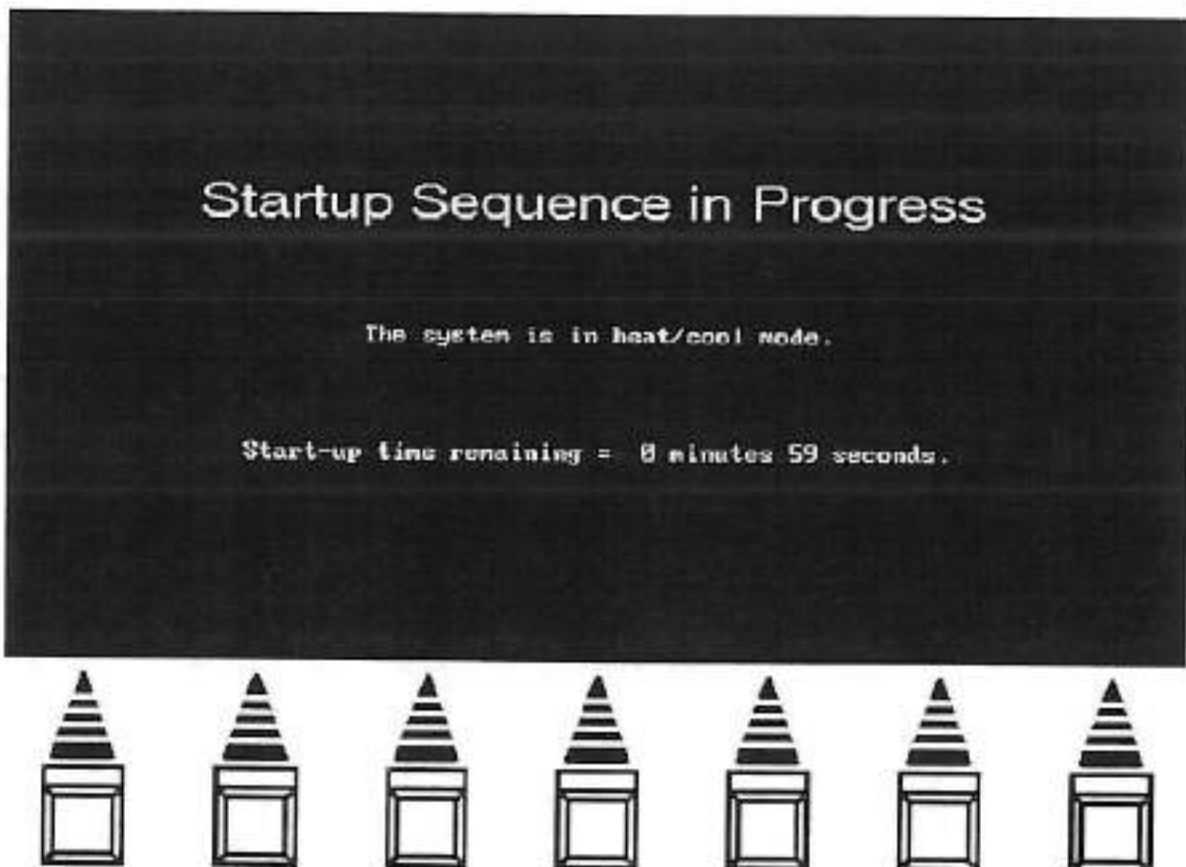

Figure 3-7. Startup Sequence Screen
4. Observe that the *System Startup Screen* (refer to Figure 3-7) appears on the CRT display of the operator control module (OCM).
- The operator control module (OCM) will show a program status message and then several seconds later the *Startup Sequence Screen* (see Figure 3-7) will appear. (If this screen does not appear but is replaced by a *CMOS error* or *Setup error* message, see Subsection Par. 5-8.)
To continue the normal startup sequence, press any key on the OCM keypad. Next the display switches to the *Startup Sequence Screen* (Figure 3-7). This screen displays a 60-second countdown delay of system startup. The delay purges the system's cold air line of condensed moisture each time the system is turned off for more than 2 hours. For shutdown intervals less than 2 hours, the system goes directly into the Variable Setup (V.S.) Mode.